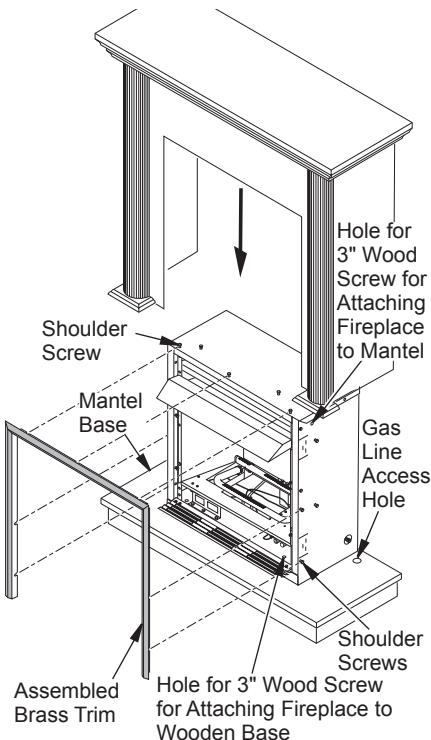

Figure 13 - Attaching Brass Trim to Fireplace
3. Place fireplace on wood base (see Figure 13, page 13).
4. Place mantel around fireplace on base (see Figure 13, page 13).
6. Firmly snap perimeter trim kit on shoulder screws. Shoulder screws are located on fireplace cabinet (see Figure 13, page 13).
- Use two 3" wood screws provided and attach base of fireplace to wooden mantel base (see Figure 13).
- Cut an access hole in base to run flexible gas line to fireplace (see Figure 13). Make sure to locate access hole so mantel will cover it when installed. **Note:** You can secure base to floor using wood screws. Countersink screw heads and putty over.
- Place perimeter trim kit on the shoulder screws located on the side and top of the fireplace. Firmly snap trim over shoulder screws on fireplace (see Figure 13).
- Adjust assembly to remove any gaps. Attach remaining two 3" wood screws from hardware pack through openings inside of fireplace sides into the mantel. The openings are located at top behind the area for top louver (see Figure 13).